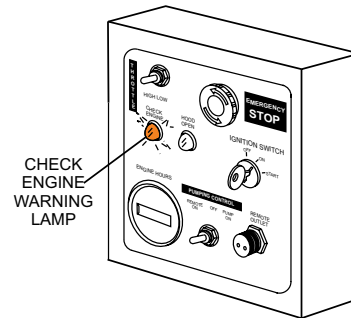

Figure 34. Engine Warning Lamp
The C30HDGA concrete pump features an engine malfunction indicator lamp found on the control box (Figure 34). When an engine malfunction is detected, the orange check engine light will illuminate.
3. Verify that the check engine warning lamp on the control box is on (lit). See Figure 34.